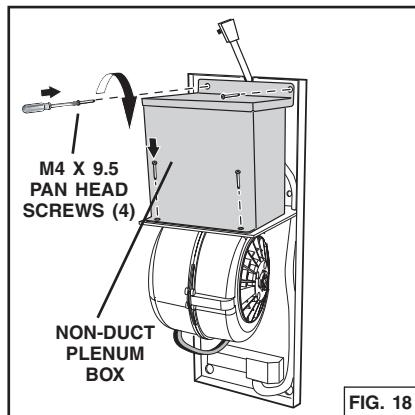

FIG. 18
7. Attach the non-duct plenum box with four (4) M4 x 9.5 Pan Head Screw. Fig. 18.